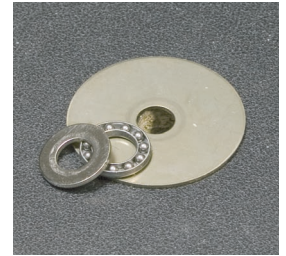

Fig. 1
1) Remove the existing azimuth tension knob/bolt, being careful to retain any existing washers and ball thrust bearing which you will re-fit (see Fig 1).